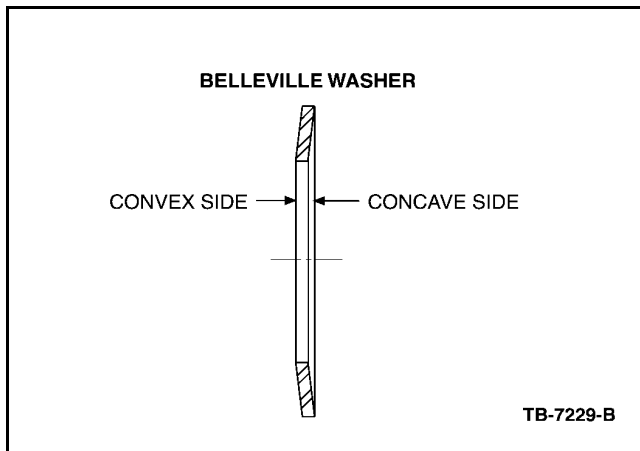

Figure 2 - Article 04-16-4
2. Assemble clutch pack into flange half in exactly the same arrangement as removed. The convex side of the belleville washer should be visible (Figure 2).